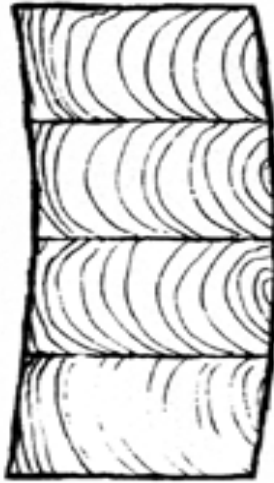

FIGURE 1.
1. Cut the material for the butcher-block top (A): 24 pieces, each 3/4" x 2-1/4" x 28-1/2". The extra length and width are necessary to allow for trimming and surfacing after the glue-up is complete.
3. **DO NOT** face all the boards in the same direction. This leads to cupping, as shown in **Figure 1**.